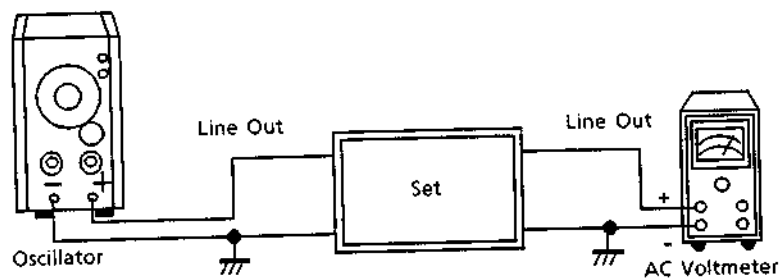

Figure 20
- (1) Make the connections as shown in Figure 20 and turn the power ON.
- (2) Insert the metal tape (TDK AC-712) into deck B and set to REC PLAY mode. Set the REC LEVEL volume to the maximum.
- (3) Input the 400Hz / 150mV  $\pm$  2dB (oscillator output) signal into the line input in the mode set in (2) and make sure that the line output is 550mV at that time.